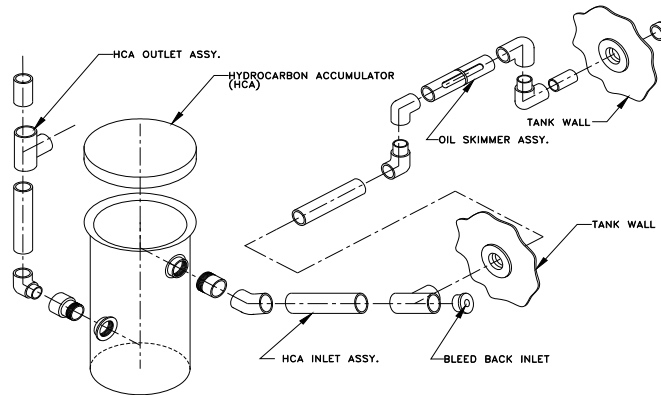

Figure HCA.1
- B. Assemble the supplied **OIL SKIMMER ASSEMBLY** inside the first compartment (above the Inclined Plates) of the Series I as shown in Fig. HCA.1 (**Do Not Glue** these fittings). Assemble the Inlet and Outlet **HYDROCARBON ACCUMULATOR ASSEMBLIES** as shown in Fig. HCA.1.